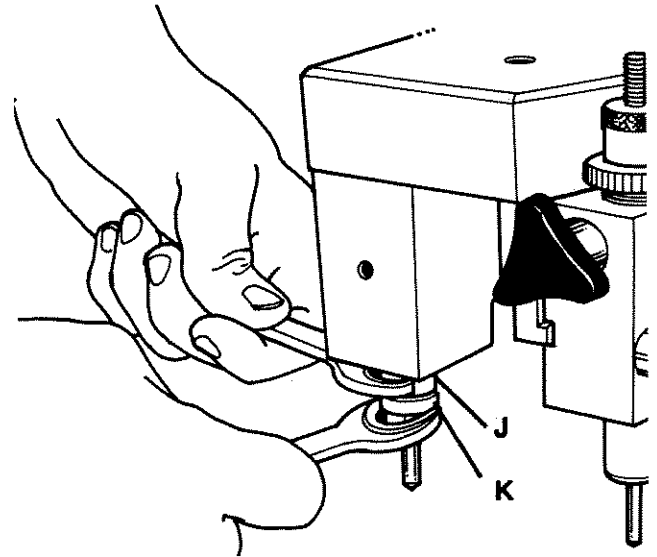

Figure 4
Any of the cutters supplied with this machine are to be installed in the same manner. An open end wrench is used to steady the cutter spindle (J) while another open end wrench is used to loosen the cutter chuck (K) (see Figure 4). The new cutter then is inserted partially into its chuck and the chuck partially tightened, ready for adjustment with the depth guide (see section on Adjustments).